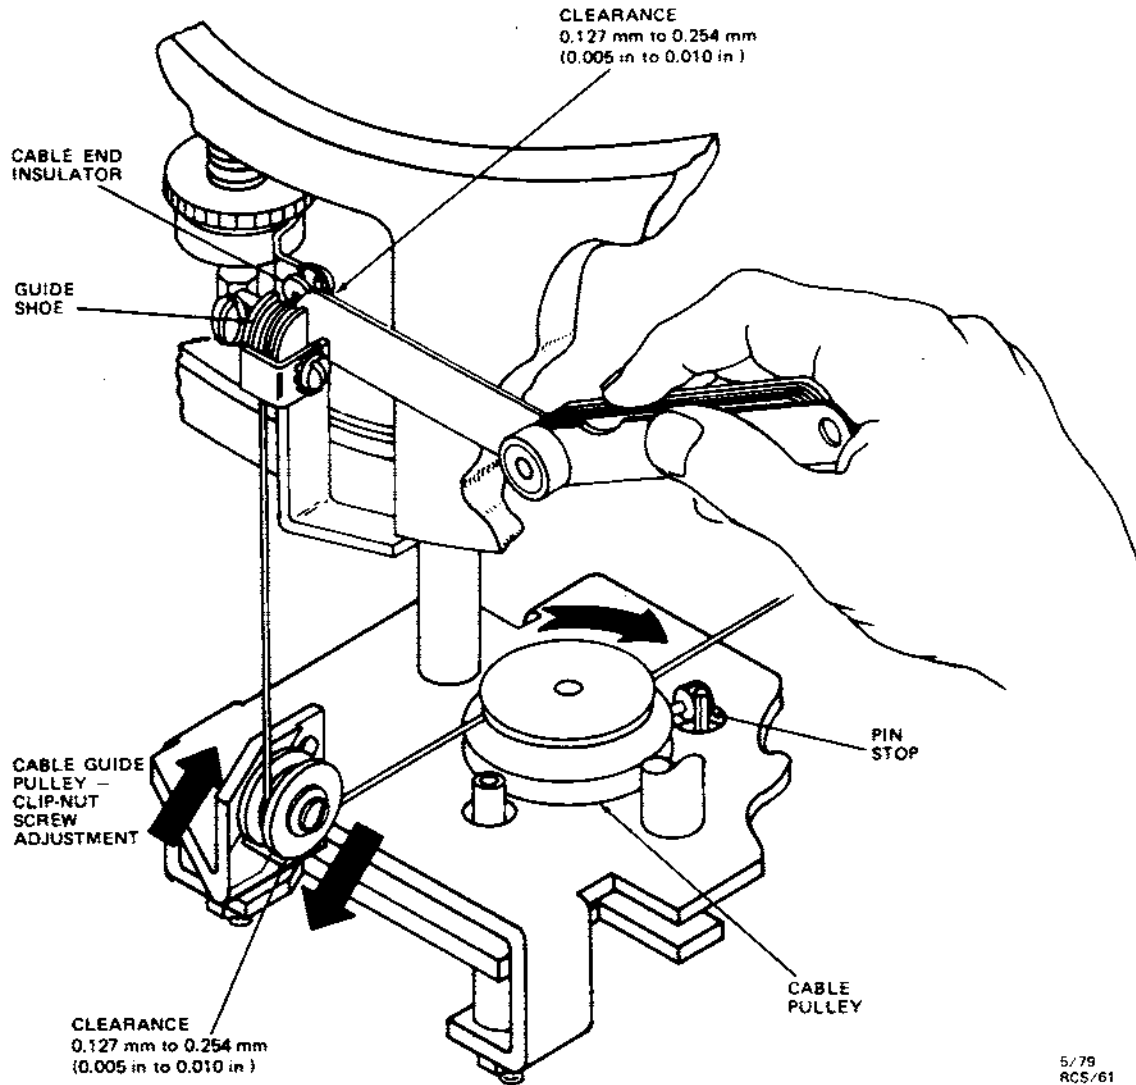

Figure 6-13. Brush Lift Cable Adjustment, Automatic Rate Controller
15. Rotate and maintain cable pulley at pin stop as shown in Figure 6-13.
After adjustment, check clearance between cable pulley and clip (see Figure 6-13). Clearance must be below 0.13-0.25 mm (0.005-0.010 in) in order to retain cable within pulley groove when cable is released. A business card is within the clearance range and can be inserted between the cable pulley and clip while adjustment is made.